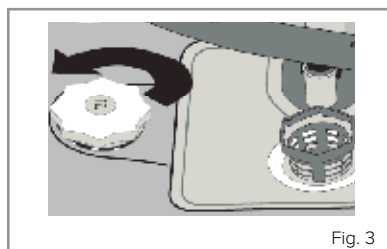

Fig. 3
- Remove the lower dishwasher basket and then unscrew the salt compartment cap (Fig. 3).